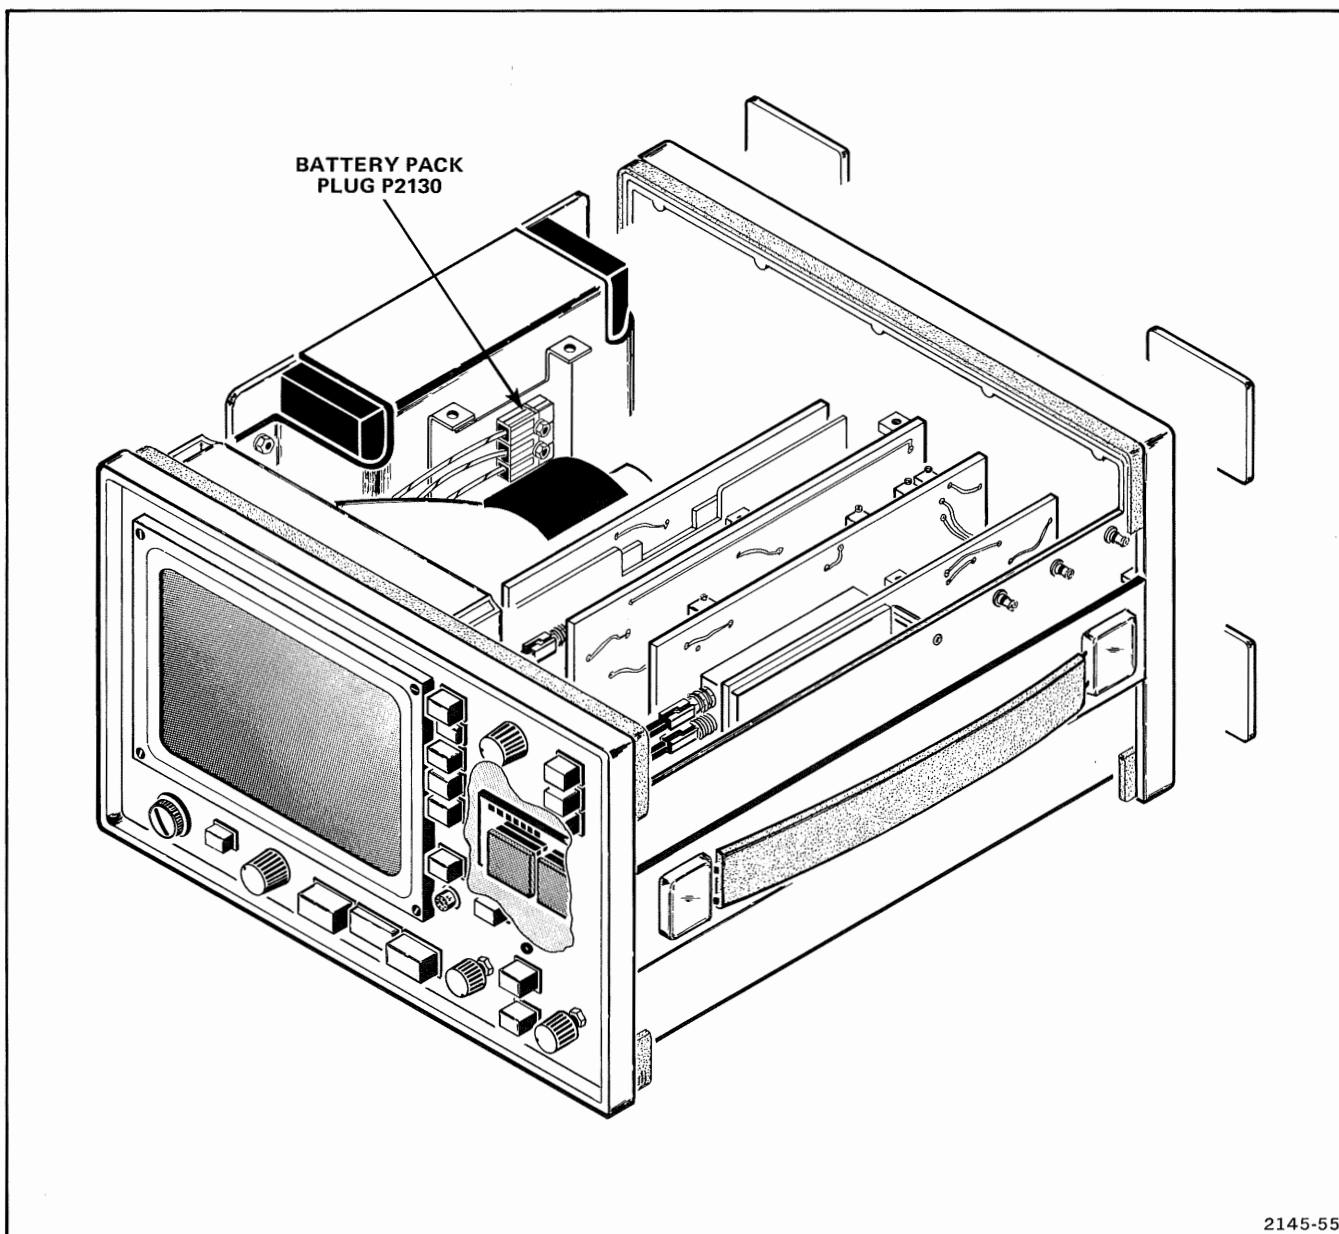

Figure 4-5. Location of battery pack plug P2130 in the Monitor.
Disconnect the Monitor from the power source, turn the Monitor off, and unplug the battery pack plug (P2130) before soldering. (See Fig. 4-5 later in this section, for location of P2130.) This procedure disables the + V supply which continuously powers certain portions of the recorder.
To avoid electric-shock hazard or possible instrument damage when removing or replacing circuit boards, always disconnect the Monitor from the power source and disconnect P2130 from the battery pack assembly. (See Fig. 4-5.)
1. Remove the top cover from the Monitor, then disconnect P2130 (see Fig. 4-5) from the battery pack assembly.
1. Remove the top cover from the Monitor and disconnect P2130 (see Fig. 4-5) from the battery pack assembly.
1. Remove the Monitor's top cover, then disconnect P2130 (see Fig. 4-5) from the battery pack assembly.
1. Remove the top cover from the monitor and disconnect the battery cable (P2130, see Fig. 4-5) from the battery pack assembly.